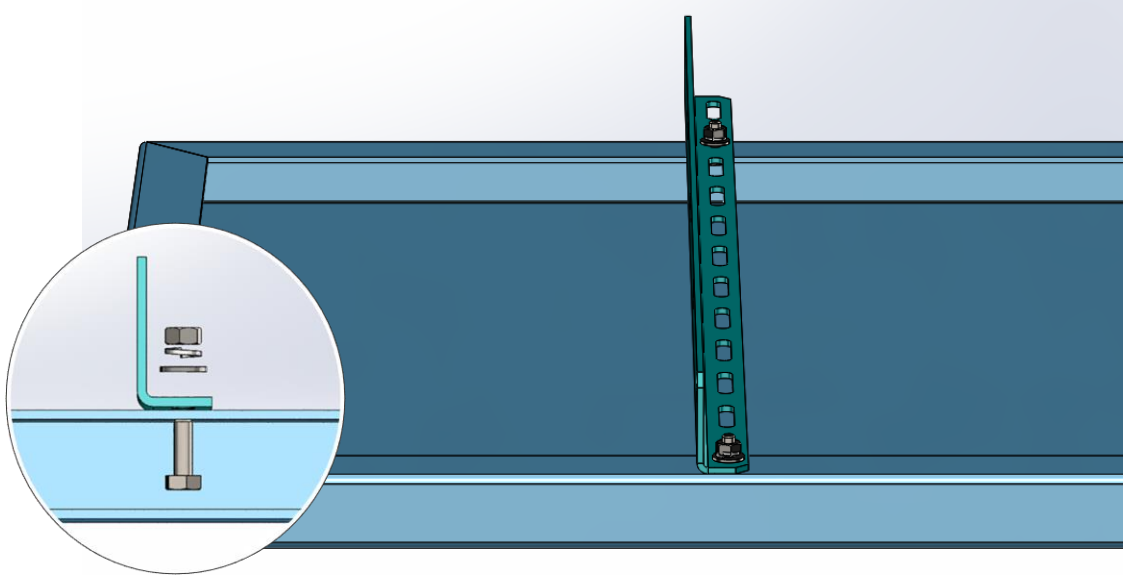

Figure 4. Mounting rail fastened to the solar panel frame
- Secure the mounting rails with a 1/4 - 20 x 3/4" bolt, flat washer, lock washer, and hex nut in each of the solar panel mounting holes (four (4) on each module) as shown in **Figure 4**. Tighten the bolts to **7 ft-lbs**.